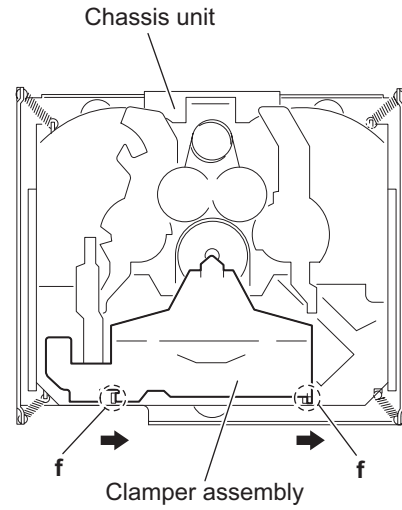

Fig.7
3.1.5 Removing the clamper assembly (See Figs.7 and 8)